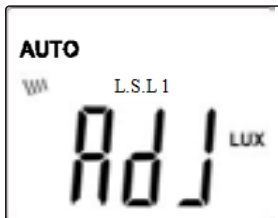

Fig.3-1-4B
3. Use the protective cover to cover the optical sensor and give a long (1 second) press on the key "HOLD/ZERO" . Then the word "ADJ" appears on the LCD screen (as shown in Fig.3-1-4B) to enter the zero calibration mode. Several seconds later, the word "ADJ" on the screen will disappear and the meter will automatically exit zero calibration mode and return to auto measurement mode.